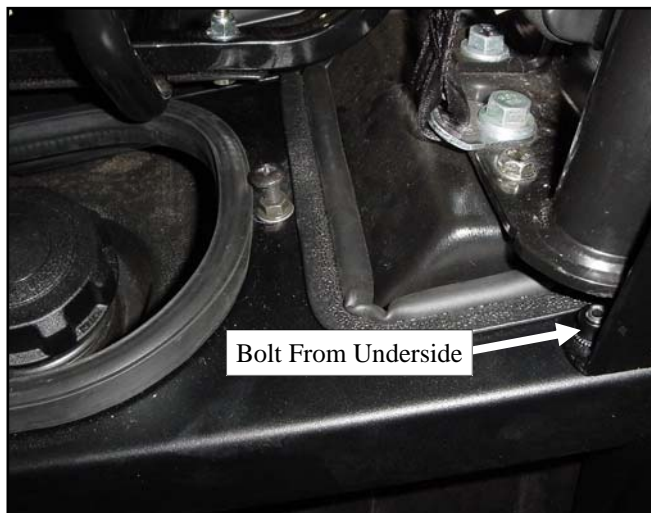

Fig. 9.1 (view of fuel tank shroud)
**9.1** Install the fuel tank shroud as shown in figure 9.1. Loosely fasten to the middle panel using the hardware listed below. **Do not tighten at this time.**